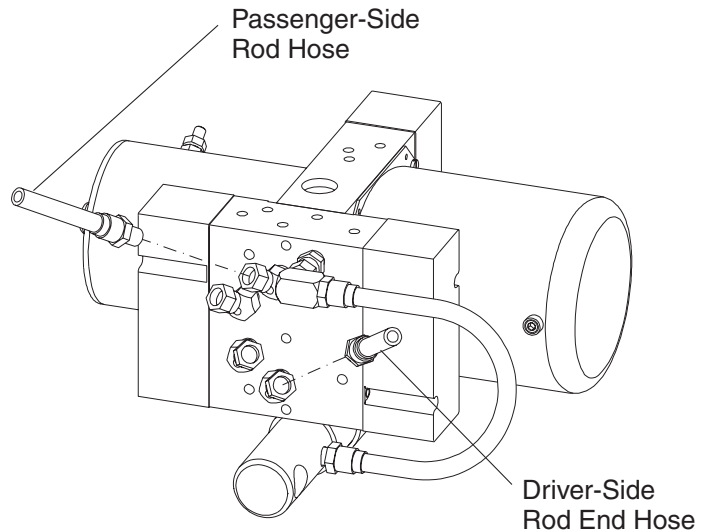

Figure 15
15. Attach the 38" hoses to the 45° swivel fittings on the hydraulic unit. (See Figure 15.)